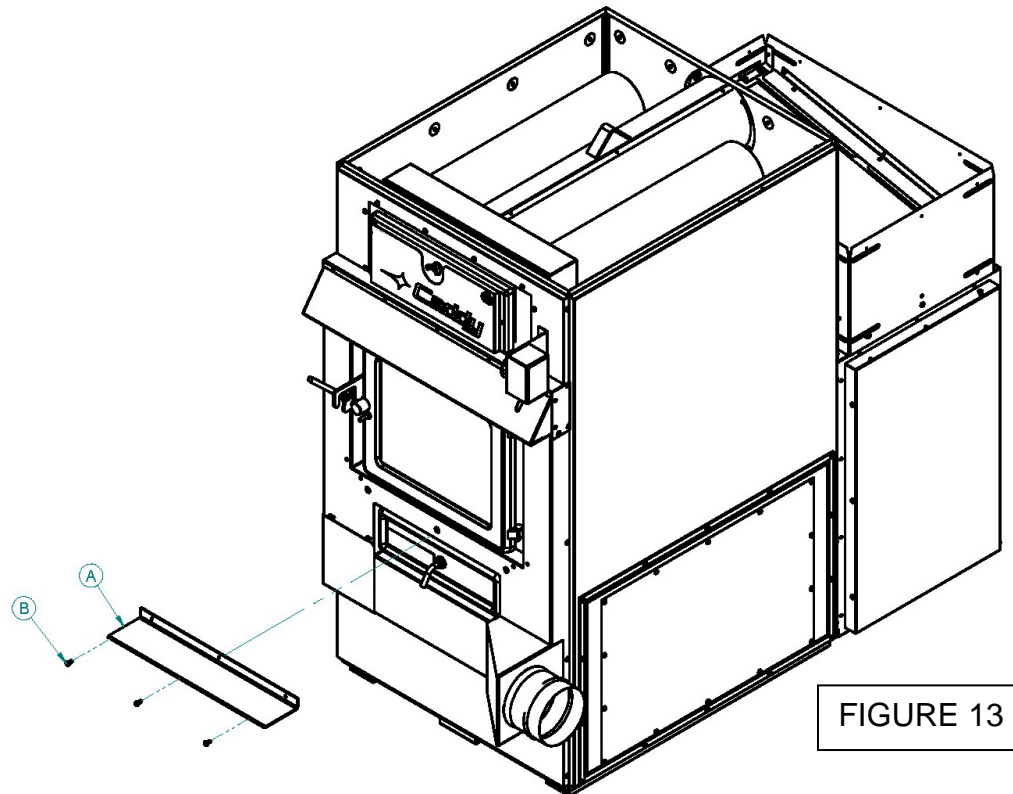

FIGURE 13
Step 13: Secure the ash shelf (A) removed on step 2, to the fresh air intake adapter using the 3 screws (B) supplied, as shown on figure 13.